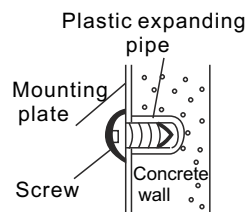

Figure 3.4
- 2) Fix the mounting plate by the screw (see Figure 3.4).